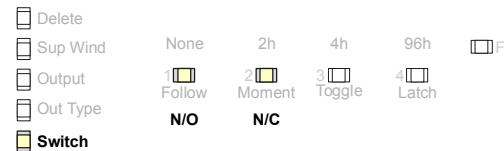

Figure 8 Select the Switch Type
7. Use the **Advance** button to choose between N/O and N/C (Fig. 8). Press **Program** to complete..